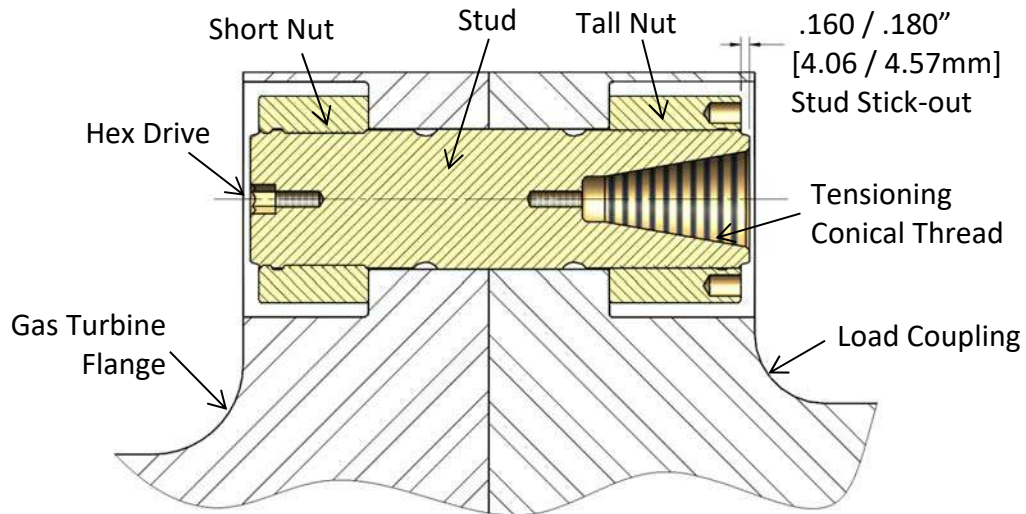

Figure 6A – Cross-section View of Gas Turbine to Load Coupling Bolted Flange Connection
4. Slide the stud and cylindrical nut assembly into the flange as shown in Figure 6A, 6B, 6C, and 6D.